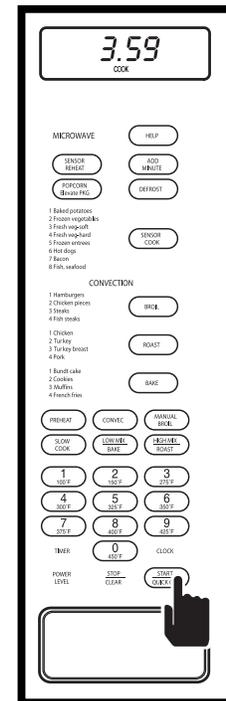

Figure 3-29.
2. Press QUICK ON/START key to begin cooking for the time amount entered. The oven will energize and the display will show the time as it counts down. (See Figure 3-29) At end of the cooking time, "END " will flash on display and alarm will beep.